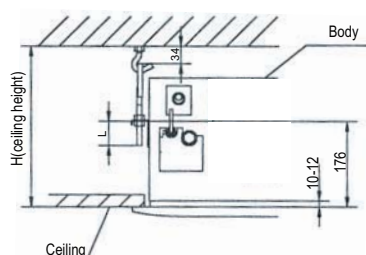

Fig.5-5
The length could be calculated from Refer to Fig.5-5:
- Adjust the position to ensure the gaps between the body and the four sides of ceiling are even. The body's lower part should sink into the ceiling for 10~12 mm (Refer to Fig.5-5).